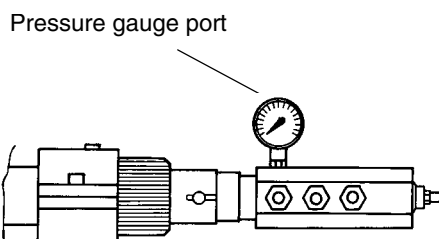

Fig. 14
- 9 the nozzle supply pressure is already factory-set and must not be changed. Only if necessary, adjust the supply pressure as follows (see related paragraph); insert a pressure gauge into the port showed on Fig. 14 and act on on the pump adjusting screw **VR** (see Fig. 13) as to get the nozzle pressure at 25bar (Fluidics/Bergonzo nozzles - see diagram on page 19).